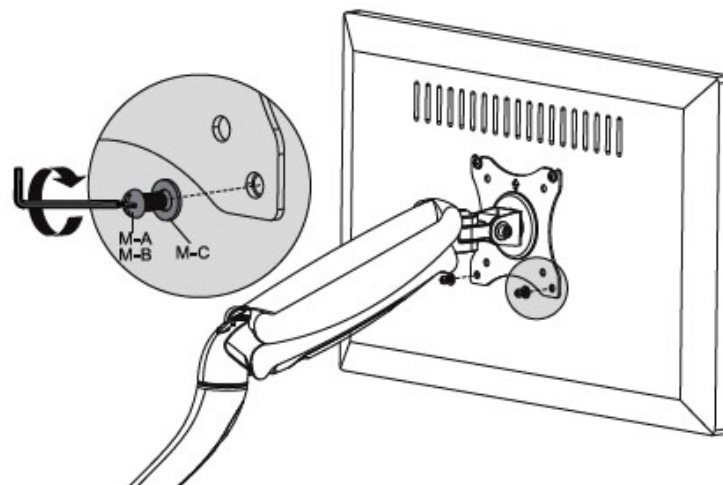

Figure 8
3. Install Washer (M-C) with either M4x12 Bolt (M-A) or M5x12 Bolt (M-B) into the monitor's lower mounting holes and fully tighten all bolts using Allen Key (K) or a Phillips screwdriver, see Figure 8.